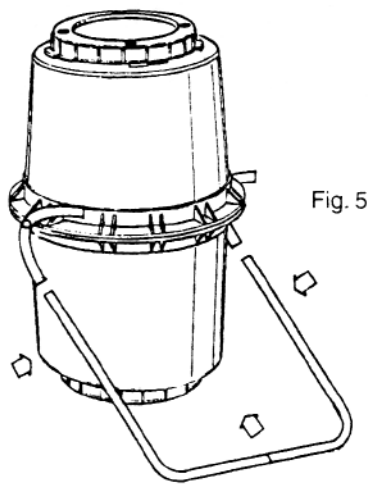

Fig. 5
5. Fit one leg set to elbows by pressing "U" shape together sufficiently to allow entry to elbows, see Fig.5.